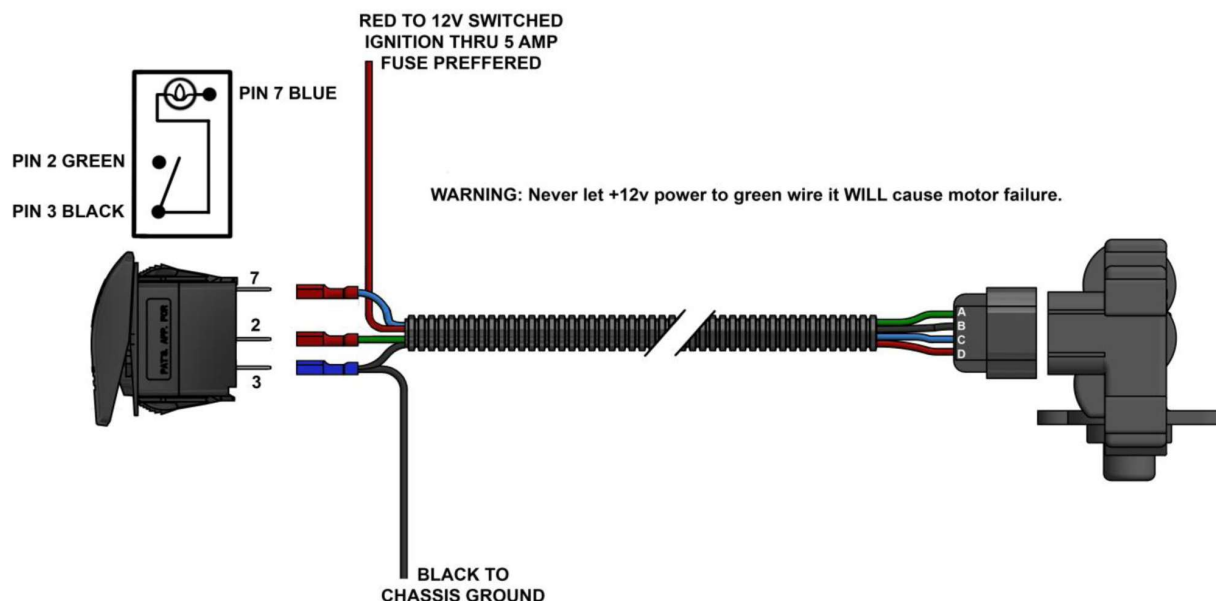

Figure 4
16. Install ring gear (37) on carrier assembly, using bolts (32) and torque to 33 ft-lb. Install lock tabs (33) on bolt (32) (flip tab for more lock positions) Secure lock tabs (33) with retaining ring (33a) by installing the retaining ring into groove on cap (34). Remove screws (12) and discard.
17. Assemble the Halo case lid shifting mechanism using an assembly lube. The components in this step, may be pre-assembled if so skip to step 18. Place spring (24) on piston (22) with O-ring (22A) installed, then place into case lid (26), screw fork (27) to piston using screw (20).
18. Slip locking ring (31) onto fork (27) and center the ring relative to the cover. (note: slightly push piston from outside of lid for easier fork installation)
19. Place lid assembly (26) onto flat on table and carefully align locking ring cogs with their respective slots in carrier cap, assembling the carrier and lid assembly together using shim (14) saved from step 4, between carrier cap (34) and bearing (23). Leave assembly lying as is flat on table.
20. Lubricate and install O-ring (49) on lid (26) then place case assembly onto lid and carrier assembly aligning bolt holes in lid assembly with bolt holes in case assembly. Using your hand or a soft mallet, gently seat the lid into the case. And install bolts (40) removed in step 3. Torque to 17 ft-lb.
21. For clearance and easier installation, install motor actuator (16) with bolts (15) and breather fitting (29). After installing differential assembly back in vehicle and before reinstalling the left axle shaft.
23. Install switch (39) and harness assembly (38) in desired location, being careful to wire switch correctly as shown in figure 4.